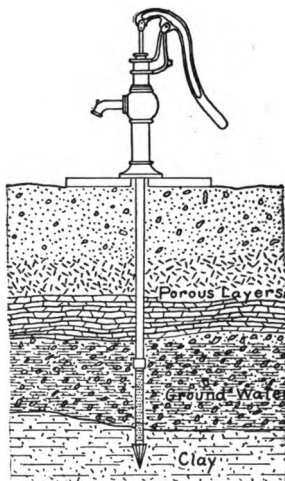

FIG. 322.—DRIVEN WELL
**327. Driven Well.** In this type of well (Fig. 322) an iron tube made in sections, with a point on the lowest one, is driven through the earth until it reaches ground water. The first section of the tube, which has the point on it, is perforated with